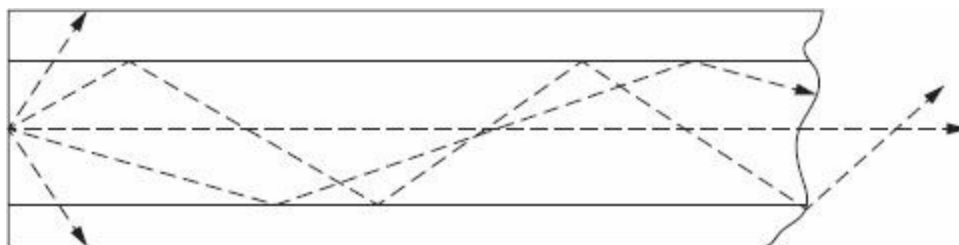

FIGURE 11.10 Multimode step-index fiber.
2. Optical fibers: They have the highest transmission rates, and are least susceptible to noise and most expensive. Mode describes the way that light propagates through the fiber-optic cable. Two types of fibers include step index and multimode graded index. Figures 11.10 through 11.12 show different types of fibers. The description of these fibers is as follows: